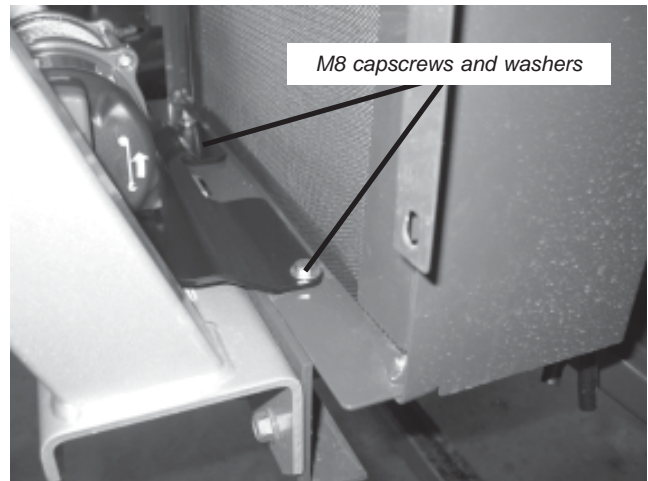

Figure 8
8. Install M8-1.25 capscrews and washers at rear of mounting plate into frame using a 13mm socket, as shown in Figure 8. Torque to 17 lb. ft. (12.5 N-m).